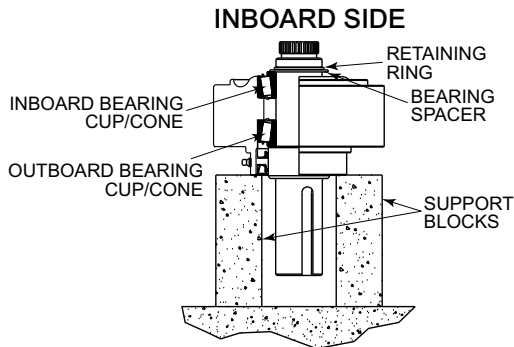

Figure 6.3.3.1 Output Endbell
2. Support hub to expose the inboard side of the endbell. Reference **Figure 6.3.3.1**.